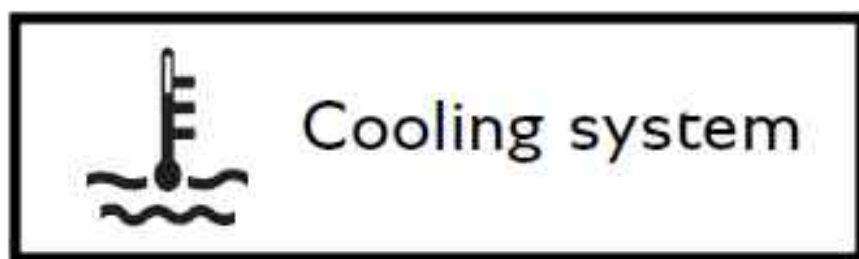

Figure 1
- Warning light in Drivers Information Panel (DIP) as Figure 1